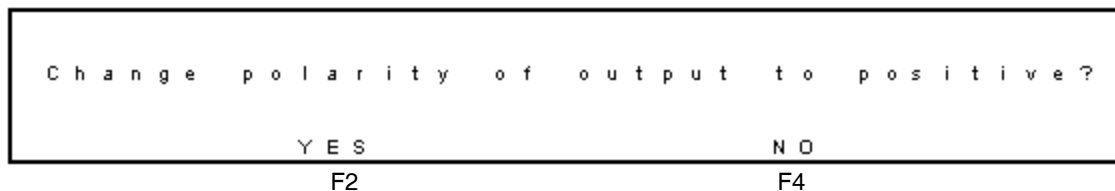

Figure 3-20 Change Polarity to Positive Screen
- If the polarity is negative, the Change Polarity to Positive screen appears (Figure 3-20). To change it to positive, select **F2 YES**. The DC Setup screen appears.